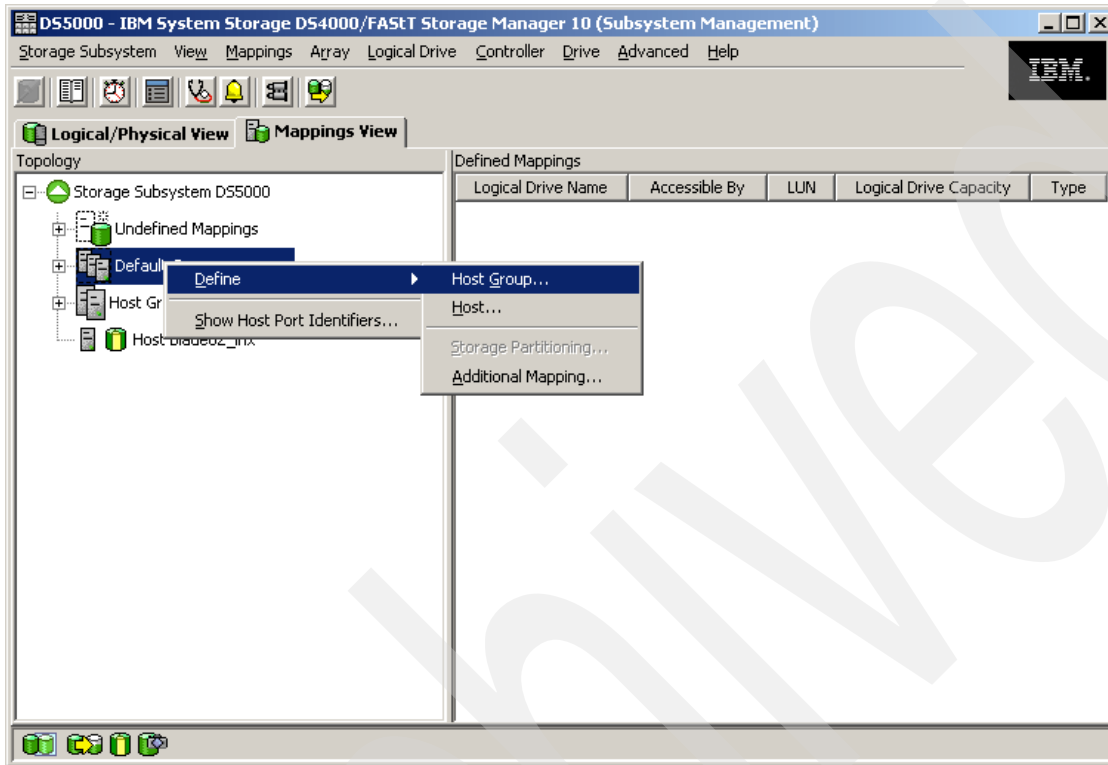

Figure 4-81 Define Host Group
1. Right-click **Default Group** and select **Define** → **Host Group**, as shown in Figure 4-81.